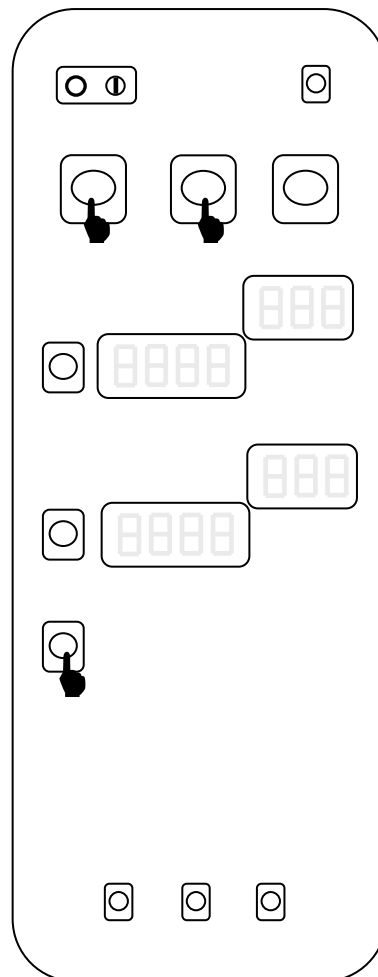

Fig. 22
- Steam cycle, combi cycle, utility buttons (fig. 22): activation of water valve of the cleaning system